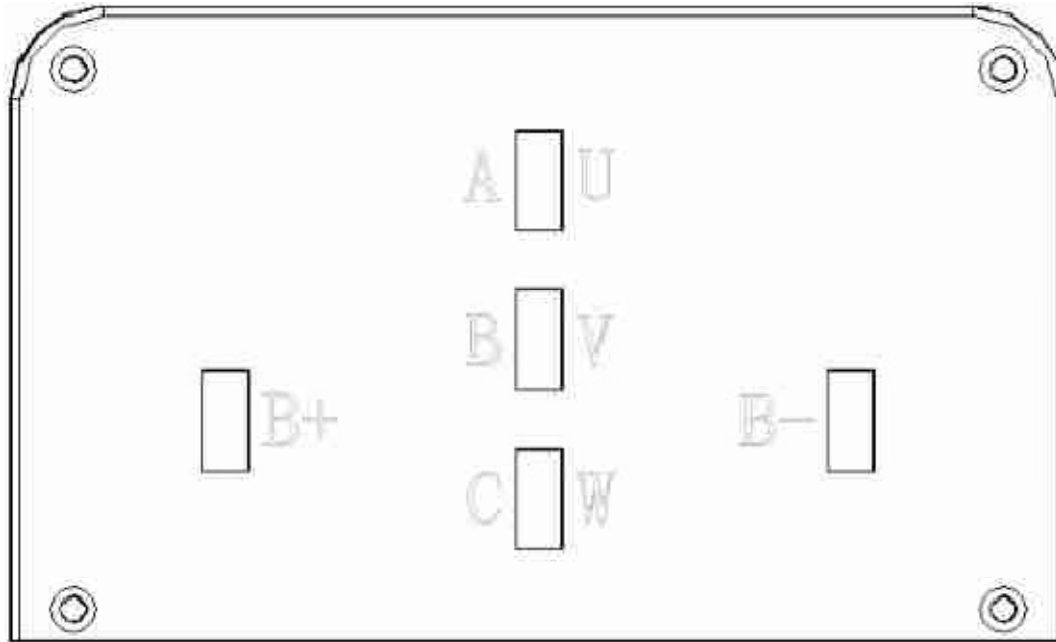

Figure 5: Front panel of KHB motor controller
3.2.1 Front Panel and back panel of KHB Motor Controller: Five metal bars in front panel and two plugs (J1, J2) in back panel are provided for connecting to the battery, motor and control signals shown as Figure 5, 6 and 9.